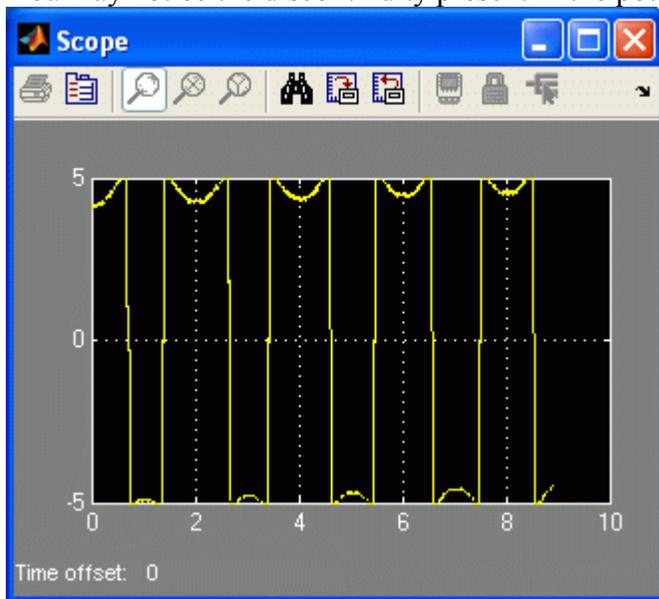

Figure 5: Potentiometer reading when encountering its discontinuity.
- Vary the sine wave frequency between 0.1 and 2 Hz and the Slider Gain value between 0 and 2. You may notice the discontinuity present in the potentiometer, as illustrated in Figure 5.